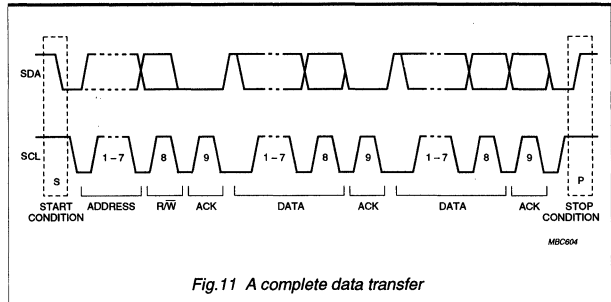

Fig.11 A complete data transfer
Data transfers follow the format shown in Fig.11. After the START condition (S), a slave address is sent. This address is 7 bits long followed by an eighth bit which is a data direction bit (R/W) - a 'zero' indicates a transmission (WRITE), a 'one' indicates a request for data (READ). A data transfer is always terminated by a STOP condition (P) generated by the master. However, if a master still wishes to communicate on the bus, it can generate a repeated START condition (Sr) and address another slave without first generating a STOP condition. Various combinations of read/write formats are then possible within such a transfer.